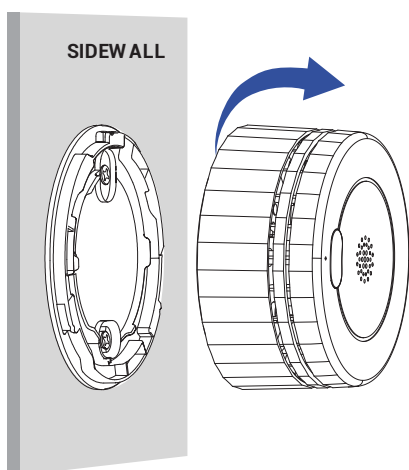

**Figure 5**
- 4.** Attach the smoke alarm to the mounting bracket and turn clockwise to lock the alarm. (See Figure 5)